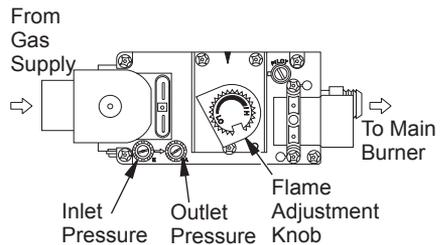

Figure 44 - Electronic Control Valve
The electronic system applies to the (V)DVF36TPNEA/TSTEA and (V)DVF36TPNEA/TSTPEA models (see Figure 44).